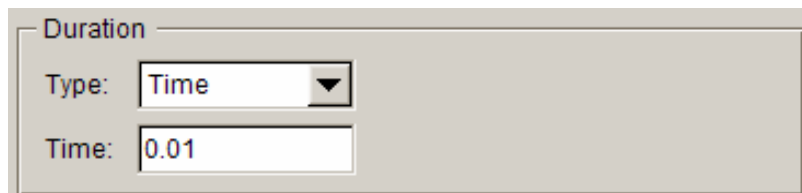

Figure 3.35 Hydroforming process time
6. Next, let's set the duration field of the process. Type in **0.01** (s) at the input data field of **Time**, as illustrated in Figure 3.35.